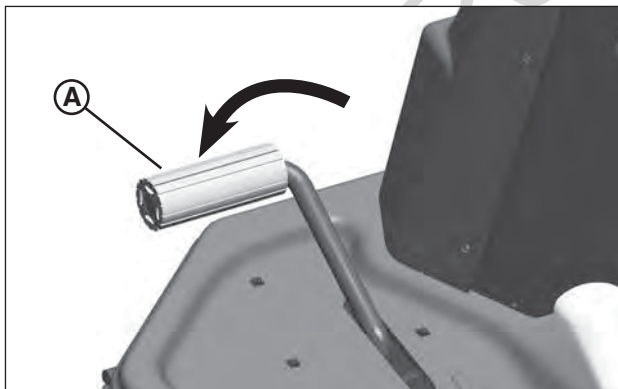
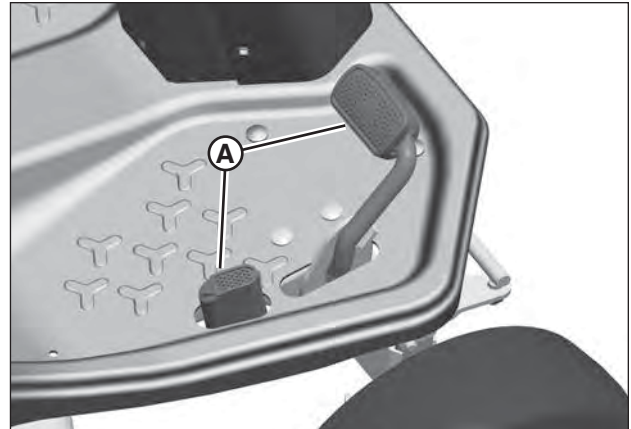

Figure 13: Clutch/brake pedal
Figure 14: Ground speed pedals (hydro drive models)
1. Stop motion of the unit by fully depressing the clutch/brake pedal (A, Figure 13) to disengage the clutch and apply the brake.
1. Stop motion of the unit by fully releasing the ground speed pedals (A, Figure 14). Additional braking can be achieved by depressing the brake pedal (A, Figure 13).